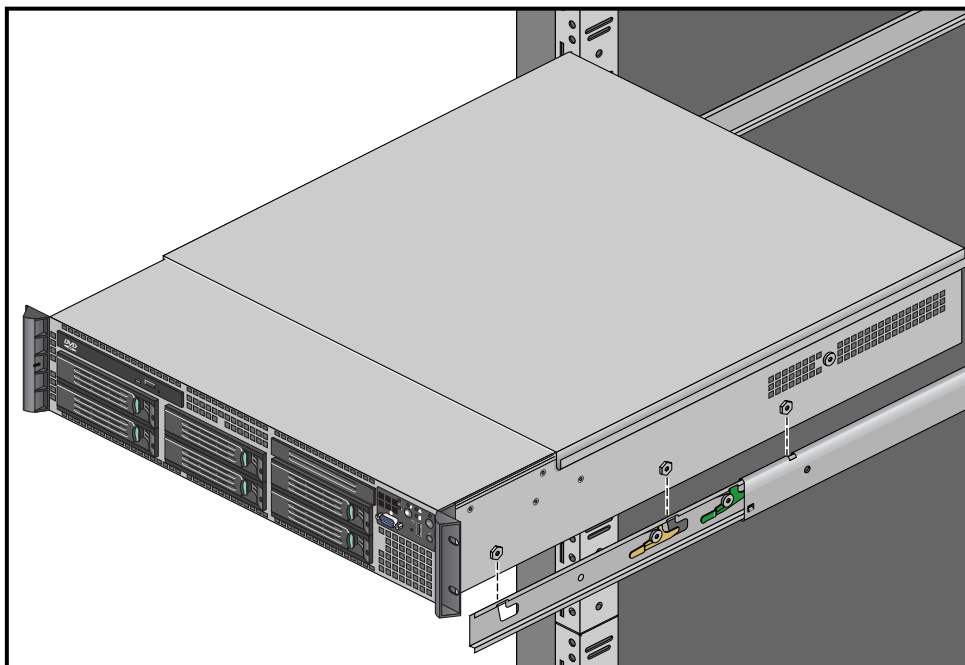

Figure 1-18 Data Manager Slide Rail Mounting Stud Positions
- Using two people, align and insert the data manager's mounting studs into the component mounting channels on the two slide rails, see Figure 1-18 for an example.